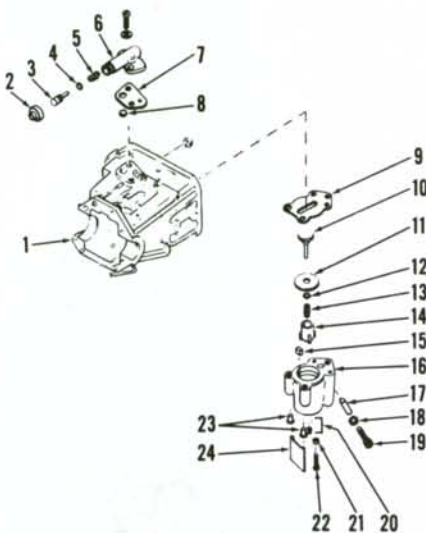

Fig. MC6-12A—Exploded view of later type manual and automatic chain oil pump. Locknut (21) may be absent on some models.
Fig. MC6-10 — Exploded view of typical engine assembly, and early type manual and automatic oil pumps. Later type manual and automatic oil pumps are shown in Fig. MC6-12A. Note that early models used insert (28) and snap ring (29) while late models use insert (25) and pin (12).